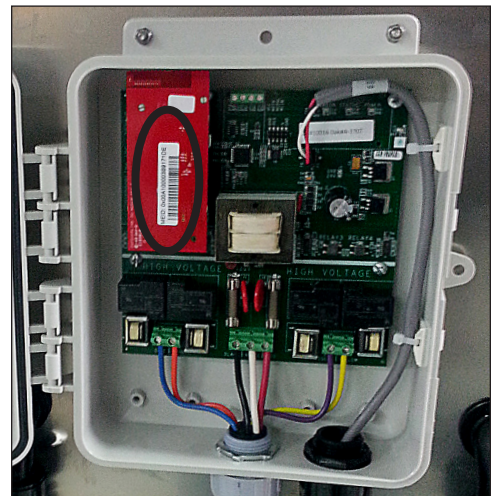

Figure 38: SmartLink™ MEID Number
8. Call Daktronics help desk and provide them with the new MEID number, circled in **Figure 38**.